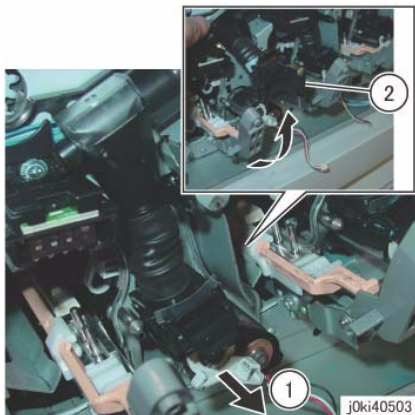

Figure 10 Slide the Dispenser Pipe (K)
13. Slide the Dispenser Pipe (K). (Figure 10)
- a. Pull the joint section between the Dispenser Pipe (K) and the Developer Housing Assembly (K) in the direction of the arrow.
- b. Open the Dispenser Pipe (K) upwards.